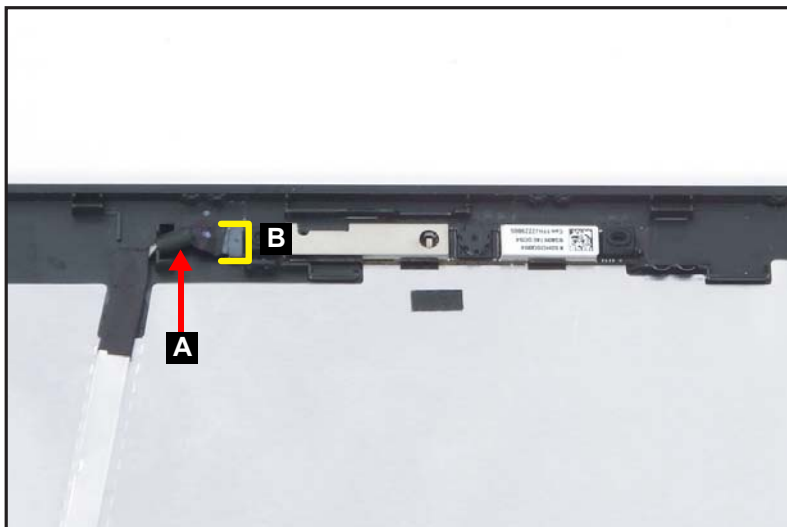

Figure 1-60. Camera Connector Location
1. Disconnect the eDP cable (A) from the camera module connector (B) (Figure 1-60).